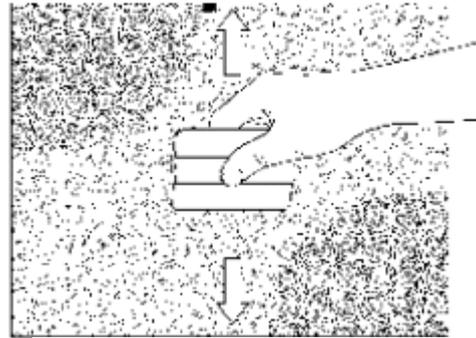

Figure 3. Squeegee Across the Shortest Distance
3. Use firm pressure on the plastic applicator and overlapping strokes. Always squeegee the shortest distance to the edge of the graphic. Hold the remaining film away from the surface. See Figure 3.